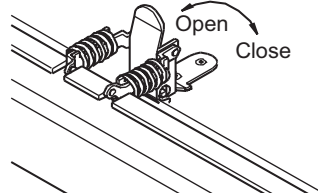

Figure 43 - Opening Door Latches
3. To open glass door, undo latches located on the top and bottom of firebox (see Figure 43). **Note:** Use caution when opening these latches. Carefully open door by swinging it to the left. The glass door is mounted to the firebox with 5 screws.